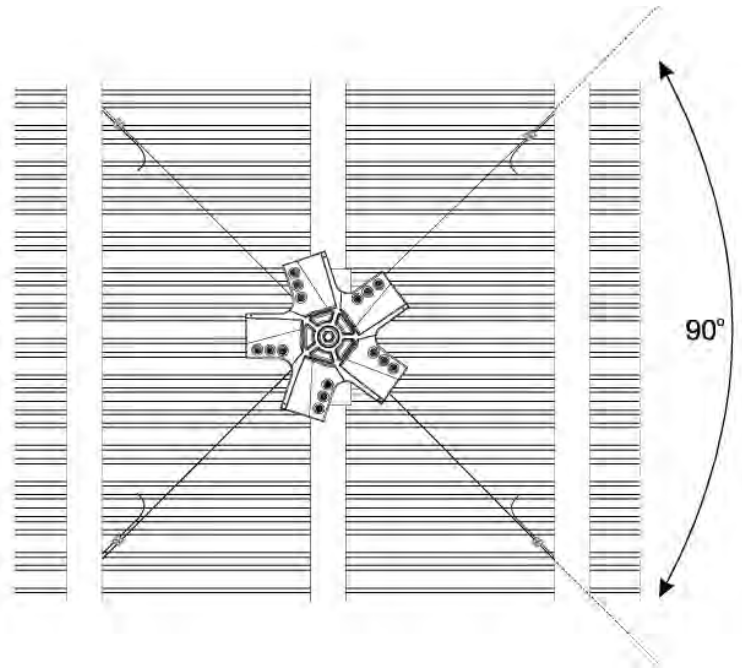

Fig.17
4. Secure it with 1 thimble and 2 cable clamps (Fig.16). Repeat using the other 3 pieces of guy wire cable, thimbles and cable clamps (Fig.15) Guy wires should be snug but not overstressed to allow free self-levelling. They should also be approximately 90° apart (Fig.17).